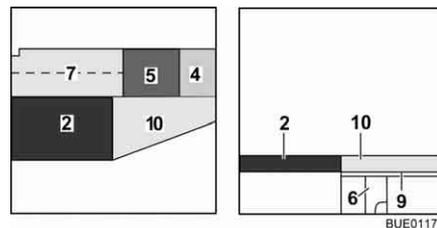

Fig. 136 After conversion
- Place the seat cushion (Fig. 136,5) in the centre.
- Place the back cushion (Fig. 136,4) between the seat cushion and the wall.
- Place the additional cushion (Fig. 136,10) on the bed widening.